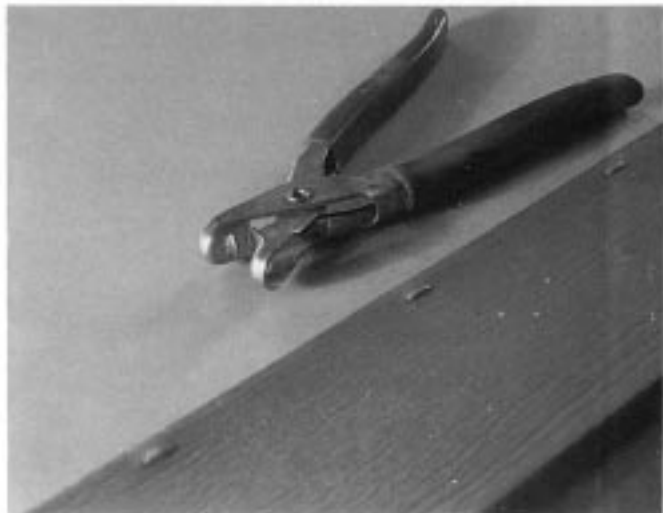

FIG. 1 Crimper and Crimps on Siding
3.2.1 *crimp*—small protrusions, typically approximately 1/2 in. (12.7 mm) long, 1/8 in. (3.2 mm) wide, and projecting 1/8 in. (3.2 mm) formed by a crimper (snaplock punch). (See Fig. 1.)
3.2.2 *crimper*—a special hand tool designed to form crimps (snaplock ears) intended to hold partial panels in place. (See Fig. 1.)
3.2.6 *snaplock ears*—See *crimp* and Fig. 1.
3.2.7 *snaplock punch*—See *crimper* and Fig. 1.